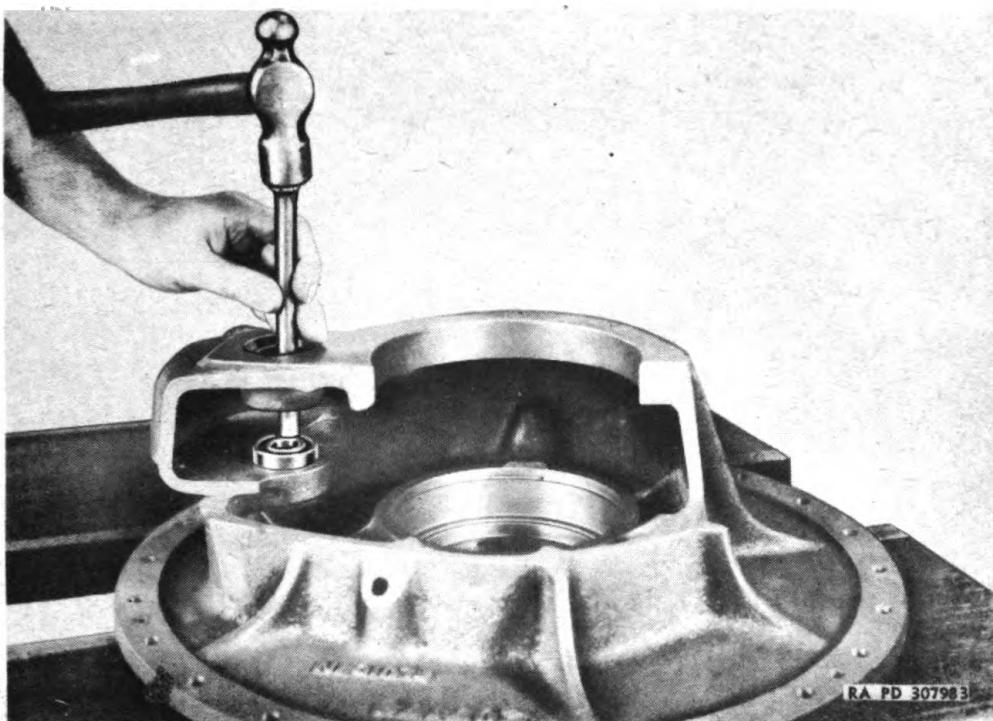
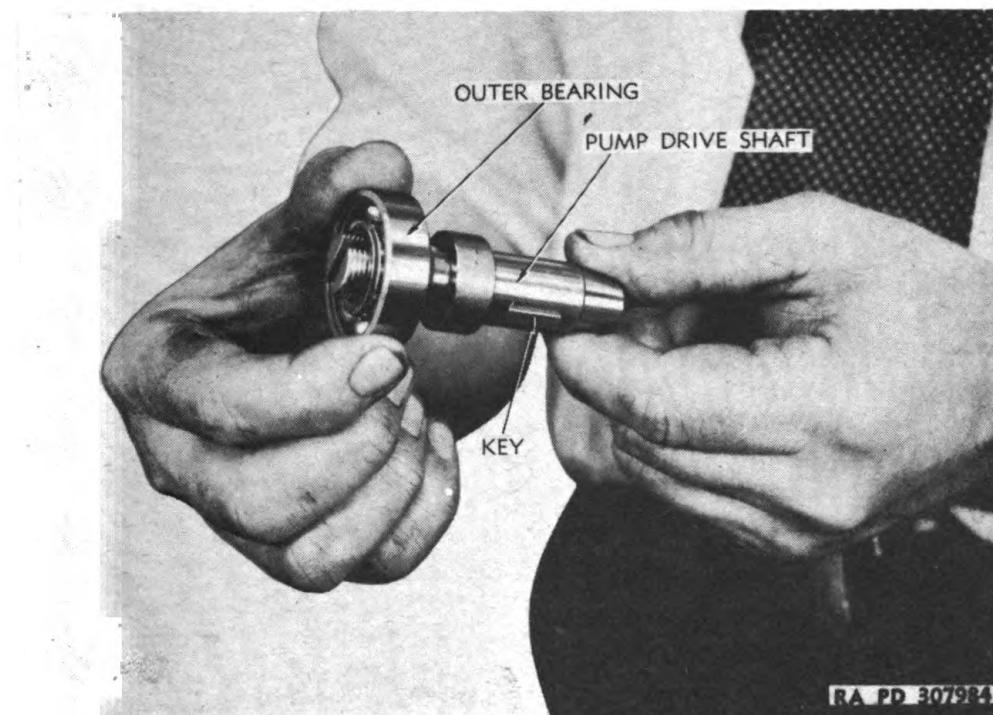

Figure 175 – Installing Inner Pump Drive Shaft Bearing
Figure 176 – Installing Outer Bearing on Pump Drive Shaft
c. Assemble and Install Pump Drive Assembly. Install pump drive shaft outer bearing on threaded end of shaft and tap key for gear into slot in shaft as shown in figure 176. Drive or press inner bearing into lower bore in turbine housing cover plate (fig. 175). Insert pump drive gear through large opening in cover plate with projecting hub down, as shown in figure 177, aline gear with key in shaft, and insert end of pump shaft through upper bore in cover plate and through gear. Then screw puller screw of special tool (41-P-2951-49) onto end of shaft and drive shaft and bearing into place as shown in figure 178. Install snap ring in bore above outer bearing.